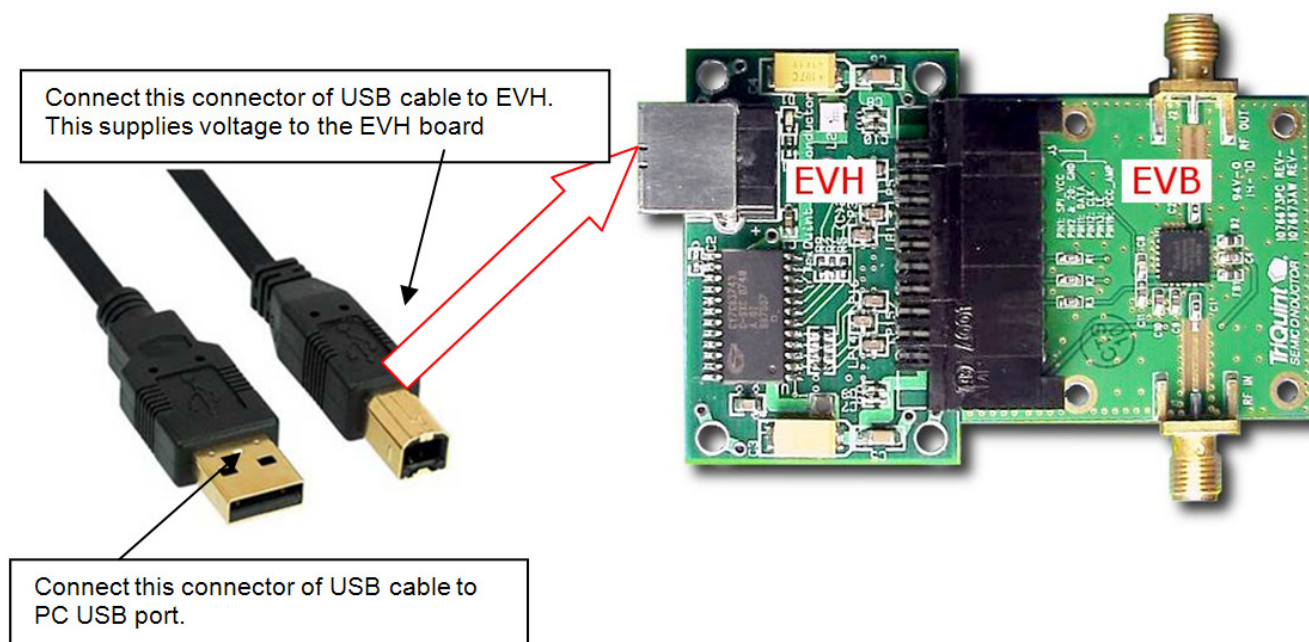

Figure 4: Connection between EVH –EVB and USB cable
- Connect EVH and EVB. EVH 20-pin Male Connector mates with the EVB 20-pin connector. This is a shrouded and keyed plug connector. The 20-pin female receptacle resides on the EVB and mates with the EVH Interface Board. Figure 4 shows an example of an Evaluation Host (left) connected to an Evaluation Board (right).